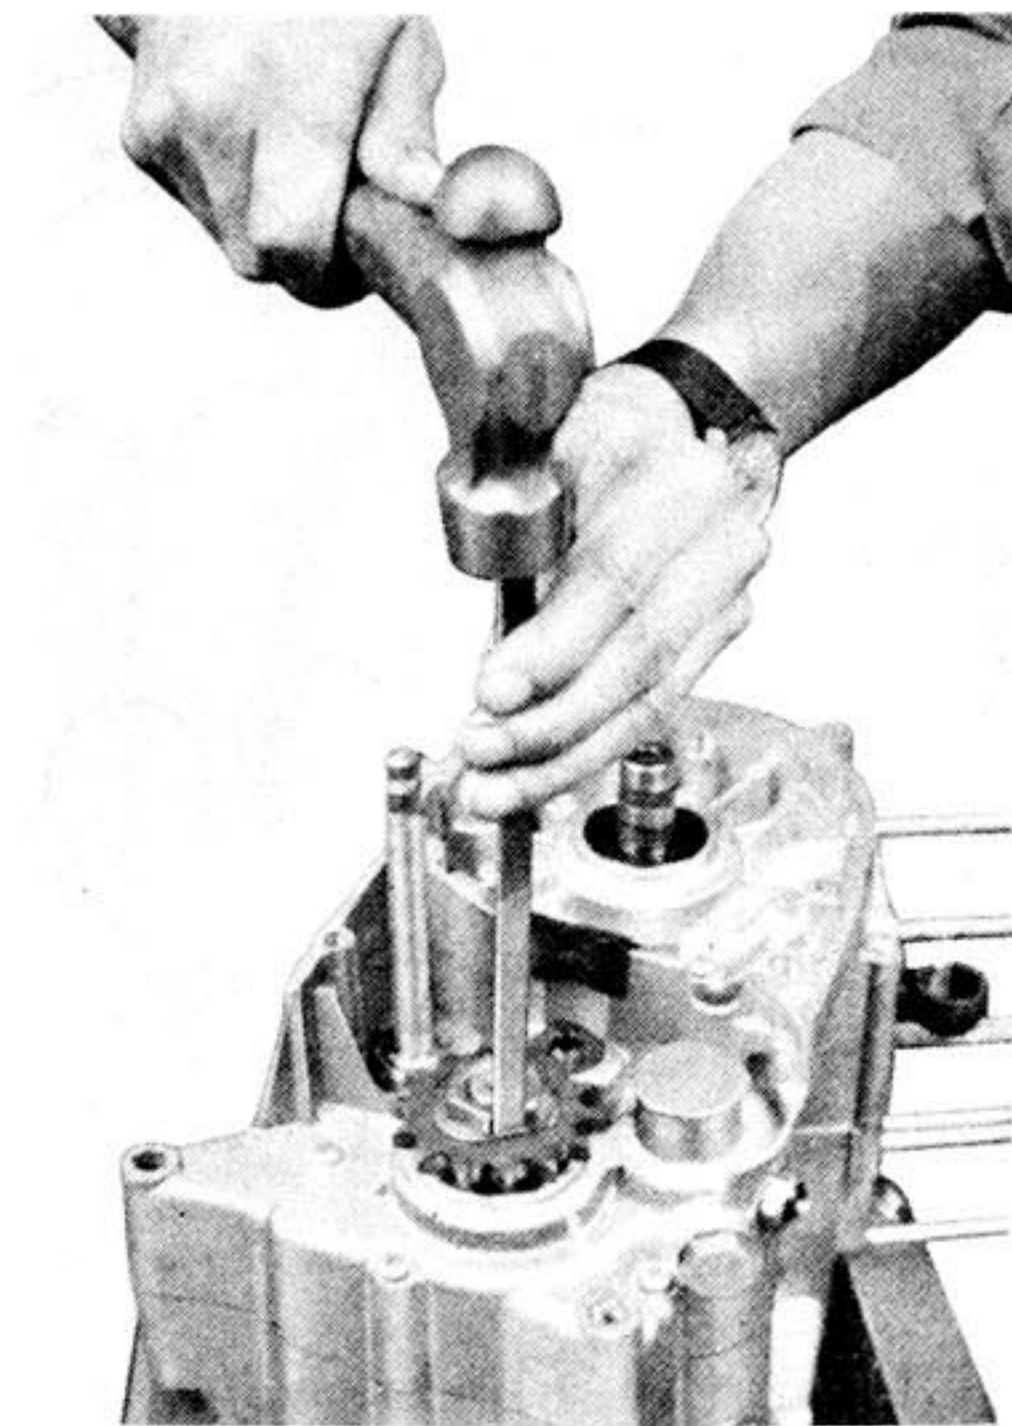

Fig. 4-13-1
a. Straighten the bent edge of the locking washer with a chisel. (Fig. 4-13-1)